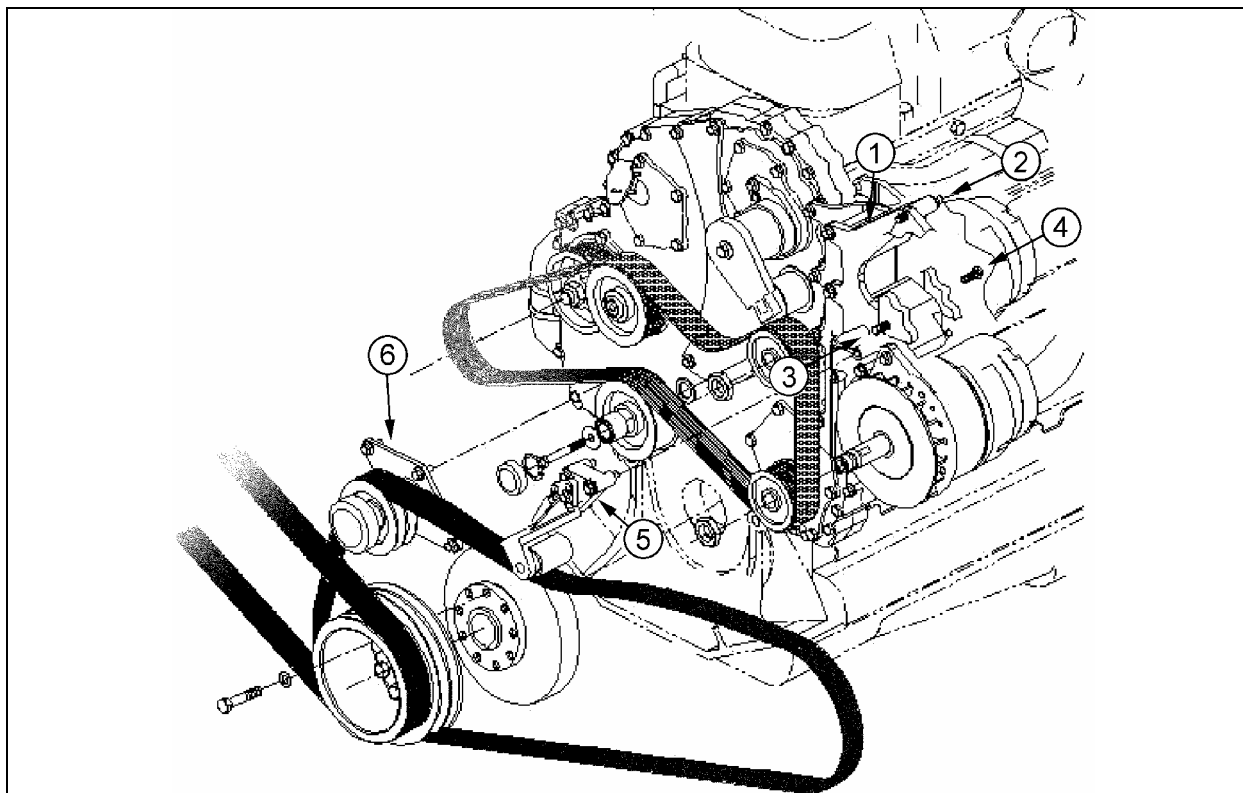
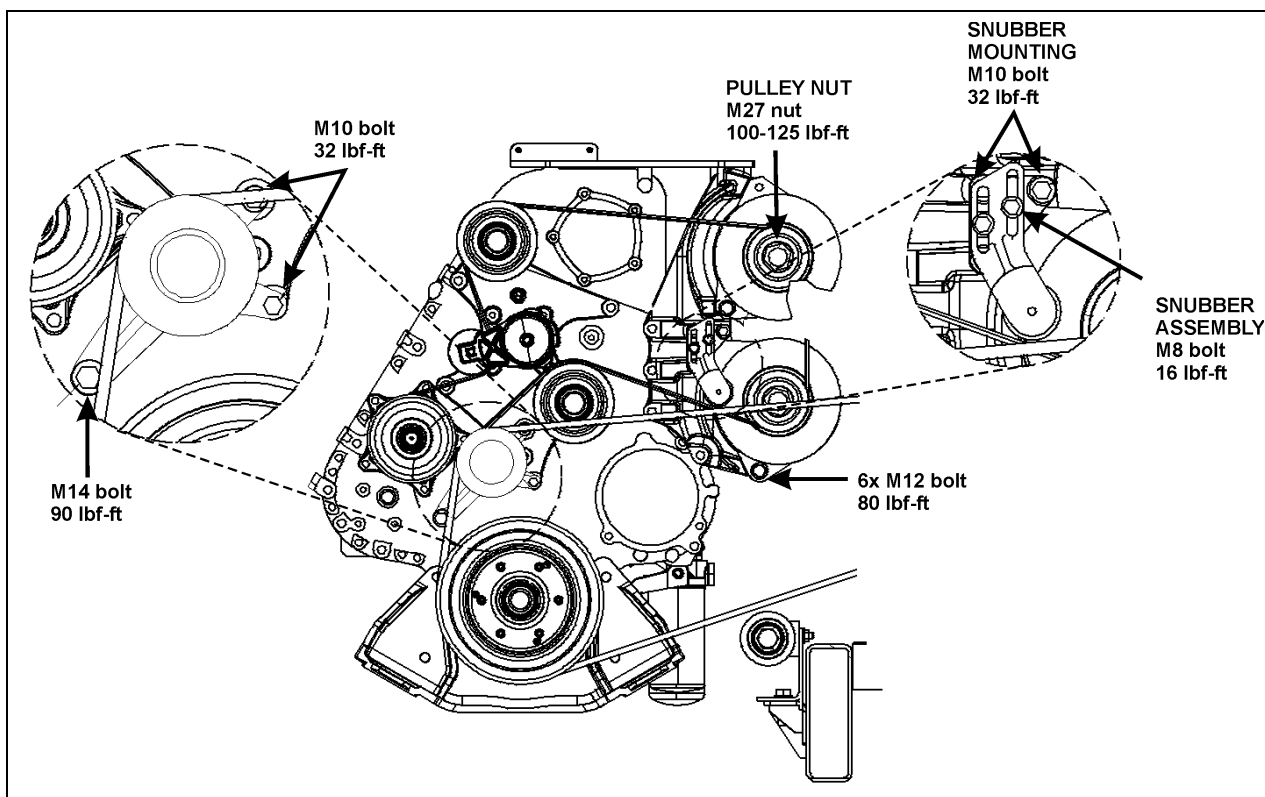

FIGURE 18: TWIN BOSCH ALTERNATORS INSTALLATION
FIGURE 19: ALTERNATORS AND ACCESSORIES MOUNTING TORQUES
2. Bolt the alternators to the bracket using the three inch bolt at the top of the upper alternator (2, fig 18) and flanged bolts at the other mounting bosses (3 and 4, figure 18). Tighten the bolts in the sliding sleeves (4, figure 18) last as they will adjust to prevent breaking the alternator mounting bosses upon final tightening. Repeat for the second alternator;
4. Install the snubber bracket (5, fig. 18) using three flanged bolts. Do not tighten the adjustment bolts on the snubber until after final tightening;
5. Install the compressor belt idler pulley (6, fig. 18) as shown. A stud inserts into one of the mounting holes of the pulley assembly. Fasten this one using a nut and bolts for the other two.
If the alternators needed to be removed, reinstall as follows. Refer to figure 18 for installation and to figure 19 for tightening specifications:
1. Install alternator mounting bracket (1, figure 18) to the gear case. Use the four flanged phosphor alloy bolts on the pulley end of the bracket and the flanged nuts at the transmission end of the bracket;